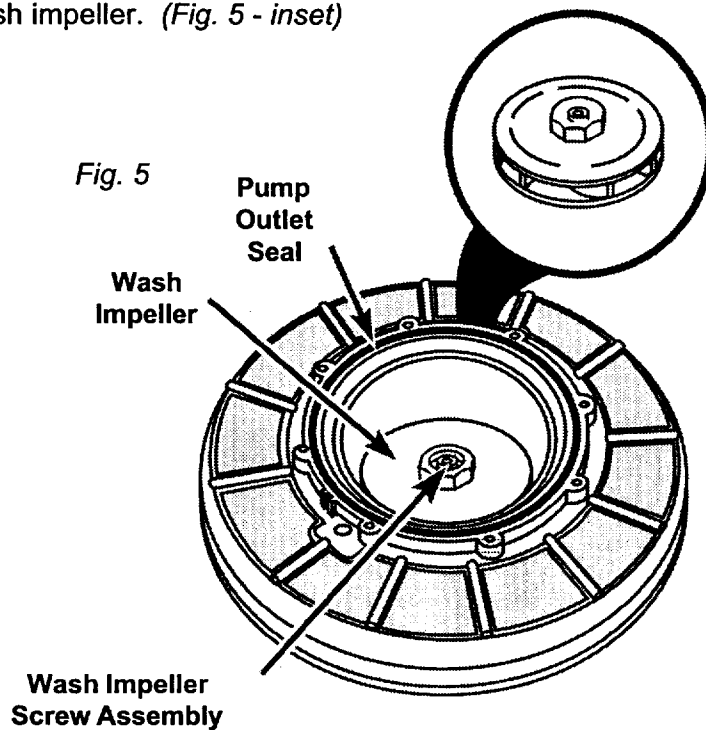

Fig. 5
2. Remove and discard the pump outlet seal. (Fig. 5)
3. Using an adjustable wrench, remove the wash impeller screw assembly. (Fig. 5)
4. Remove the wash impeller. (Fig. 5 - inset)